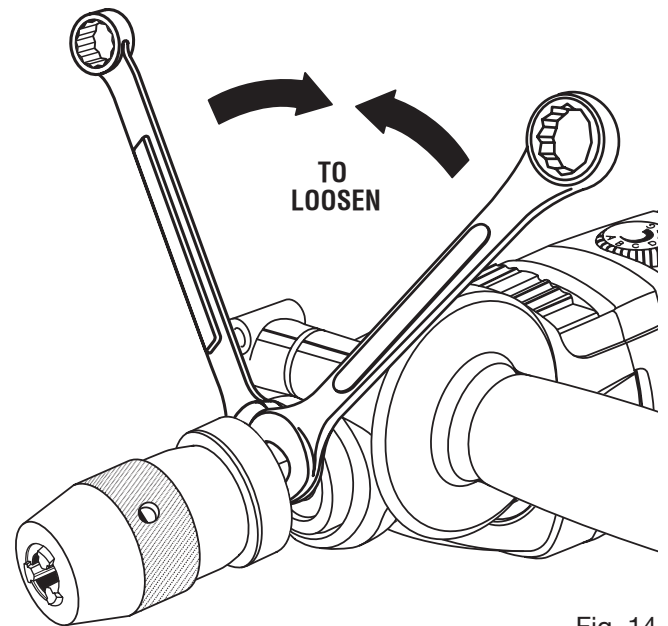

Fig. 14
See Figure 14.
- Using two open-end wrenches, loosen the chuck. See Figure 14.